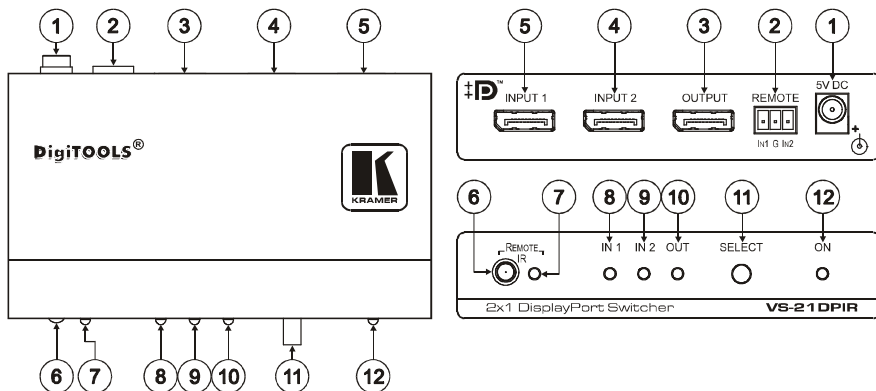

Figure 1: VS-21DPIR 2x1 DisplayPort Switcher
Figure 1 and Table 1 define the **VS-21DPIR 2x1 DisplayPort Switcher**.
1. Point the remote control transmitter at the remote receiver (item 10 in Figure 1 / Table 1) and press the **GROUP** key.
2. Press key 11.